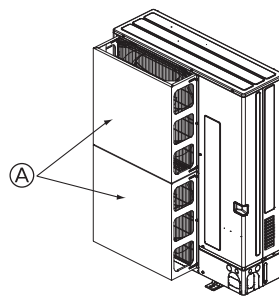

Fig. 12-1-2a
- ① Install an optional air guide if the unit is installed in a location where strong winds from a typhoon, etc. may directly enter the air outlet. (Fig. 12-1-2a)